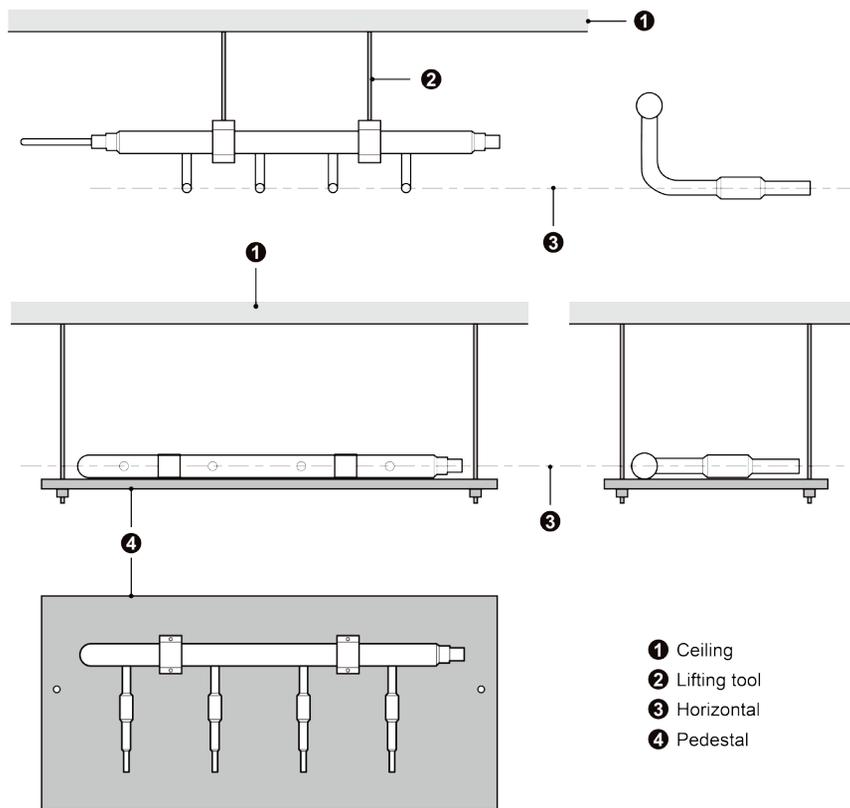

Fig.4.4.9
(4) Suspend the header to the ceiling, and be sure to install the T-type manifold so that the outlet pipes are horizontal at the lower side. See Fig.4.4.9.